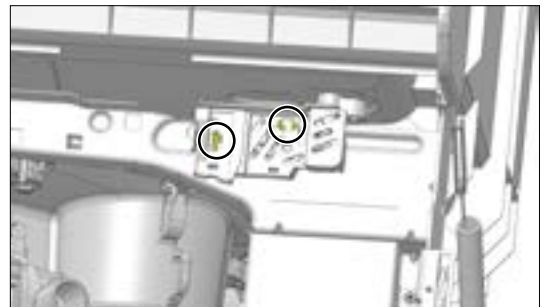
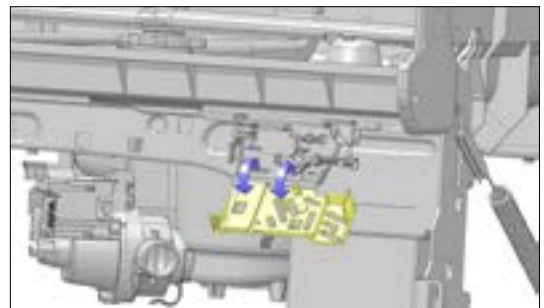

Figure 1
Figure 2
2. Remove two (2) screws from the toe/access panel.
4. Open cover by depressing the two (2) tabs as shown in figure 1 and figure 2 and remove 1/4" hex head screw as shown in figure 3.